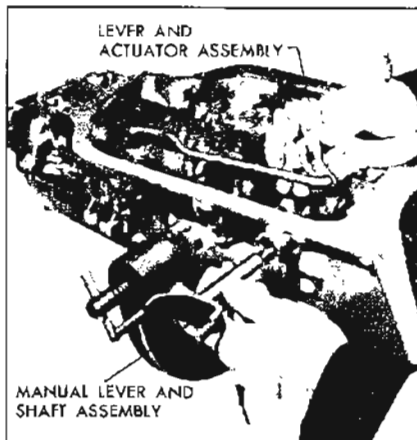

Figure 5-708
5. Install the manual lever and shaft assembly through the case and detent lever. See Figure 5-708.